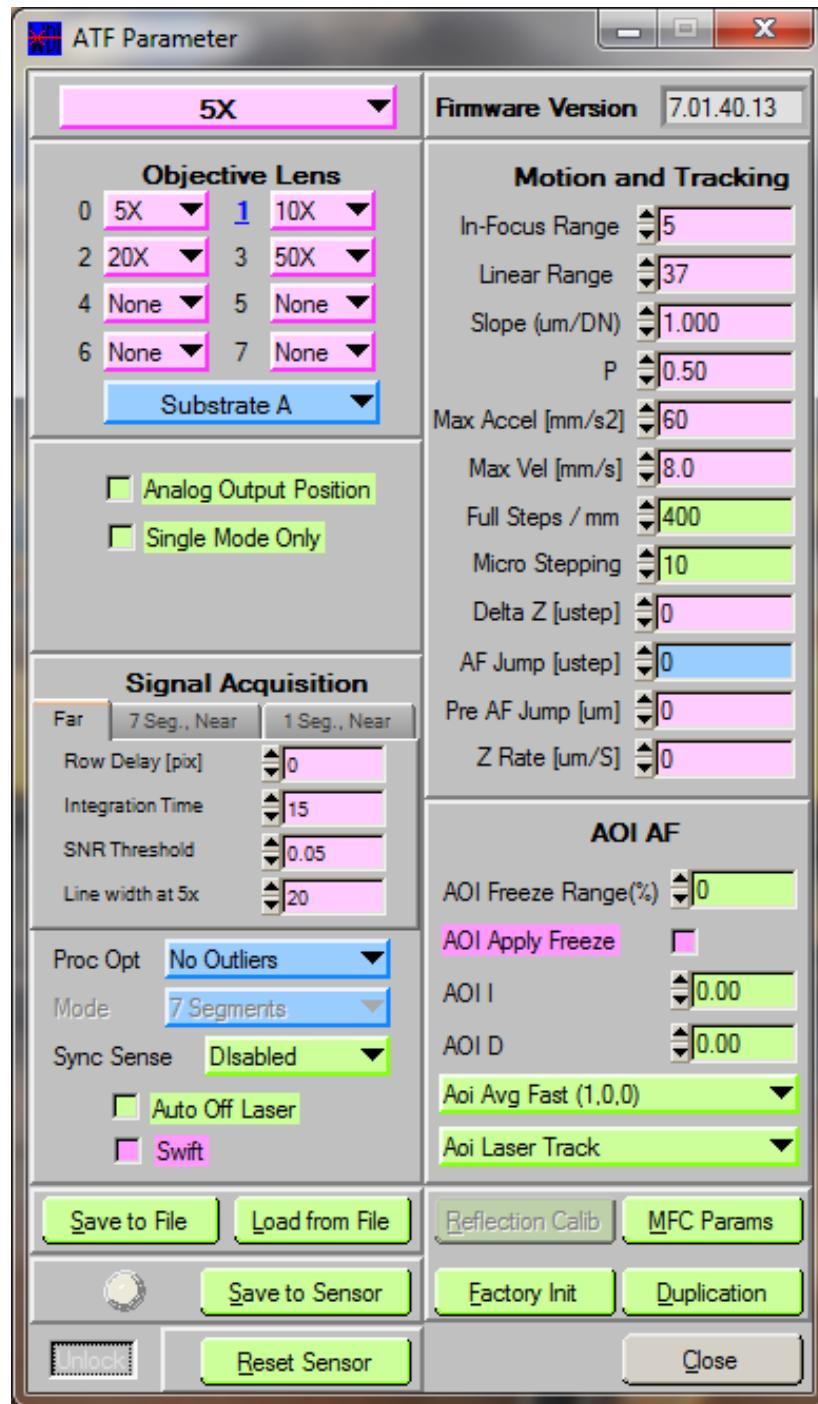

Figure 4-8 ATF6_Test parameter window
2. Set objective lens setting by inputting magnification and DUV in accordance to position on lens changer and close window [Figure 4-8].